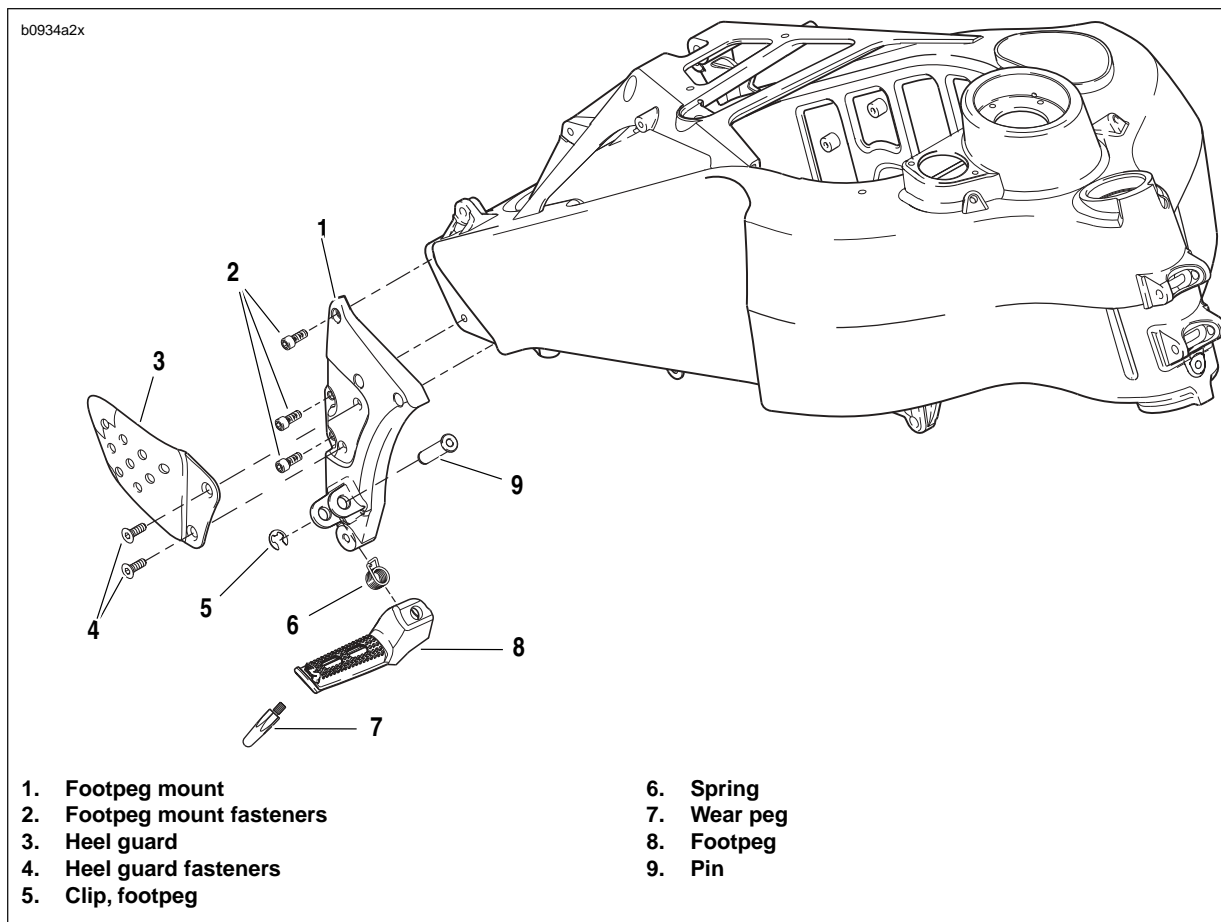

Figure 2-116. Rider Footpeg, Mount and Heel Guard Assembly
1. See Figure 2-116. Remove wear peg from end of footpeg assembly.
1. See Figure 2-116. Remove clip (5).
2. Remove footpeg pin (9).
3. Remove footpeg (8).
1. See Figure 2-116. Remove heel guard fasteners (4).
2. Remove heel guard (3).
1. See Figure 2-116. Remove footpeg mount fasteners (2).
2. Remove footpeg mount (1).
1. See Figure 2-116. Position footpeg mount (1).
2. Install footpeg mount with fasteners (2). Tighten to 132-144 **in-lbs** (14.9-16.2 Nm).
1. See Figure 2-116. Position heel guard (3) onto footpeg mount (1).
1. See Figure 2-116. Position spring (6) in footpeg (8).
2. Position footpeg (8) on to footpeg mount (1).
3. Install footpeg pin (9).
4. Install footpeg clip (5).
1. See Figure 2-116. Apply Loctite 271 (red) and tighten to 36-48 **in-lbs** (4.1-5.4 Nm).